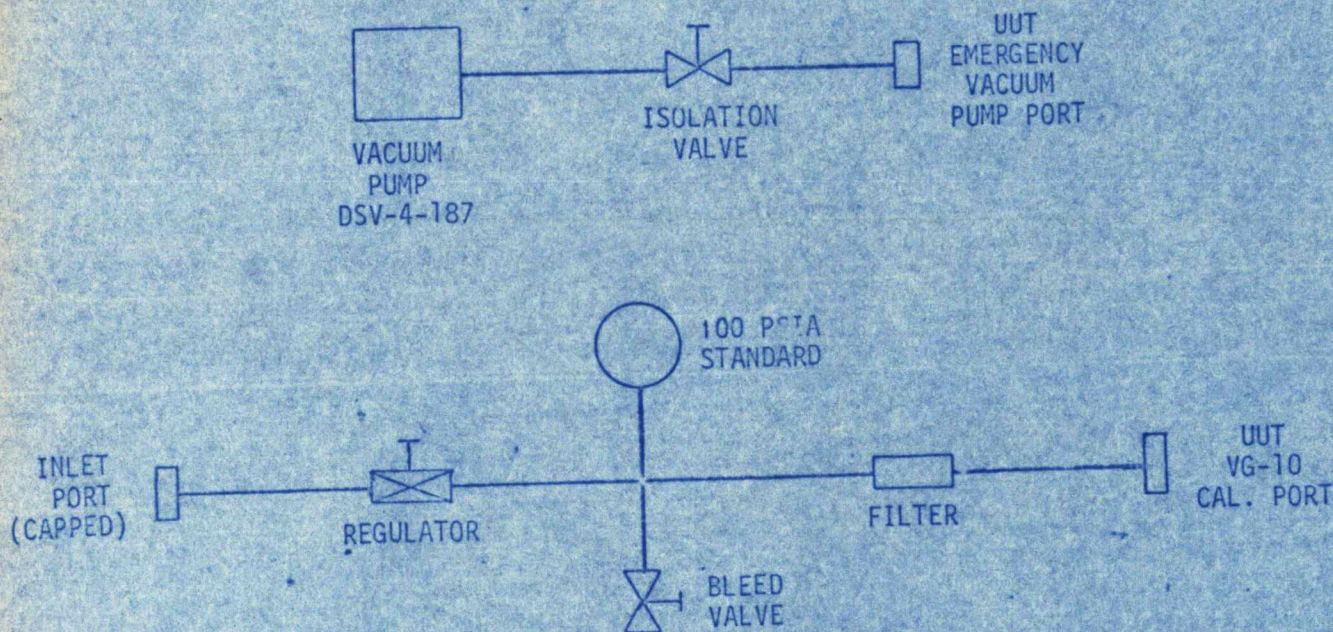

FIGURE 1. VACUUM SETUP (SAT V)
- (A) THE 1/4 INCH BULKHEAD VACUUM LINE SHALL BE DISCONNECTED FROM HAND VALVE VH-67, A PRESSURE PLUG SHALL BE INSTALLED ON THE 1/4 INCH VACUUM LINE.
- (B) CLOSE ALL CONSOLE HAND VALVES AND REGULATORS,
- (C) CONNECT THE EQUIPMENT AS SHOWN IN FIGURE 1,
- (D) OPEN VALVE VH-68,
- (E) TURN ON EXTERNAL VACUUM PUMP AND OPERATE THE ISOLATION AND BLEED VALVES TO TEST THE VG-10 AT THE FOLLOWING VALUES, EACH INDICATION MUST BE WITHIN TOLERANCE LIMITS LISTED:
(A) FIGURE 1